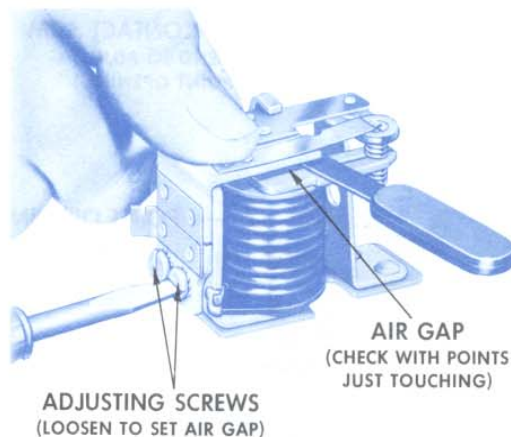

Figure 10—Cutout relay air gap check and adjustment. Battery must be disconnected when making this check.
3. To adjust air gap loosen two screws in back of relay and raise or lower armature as required (Figure 10). Tighten screws after adjustment.